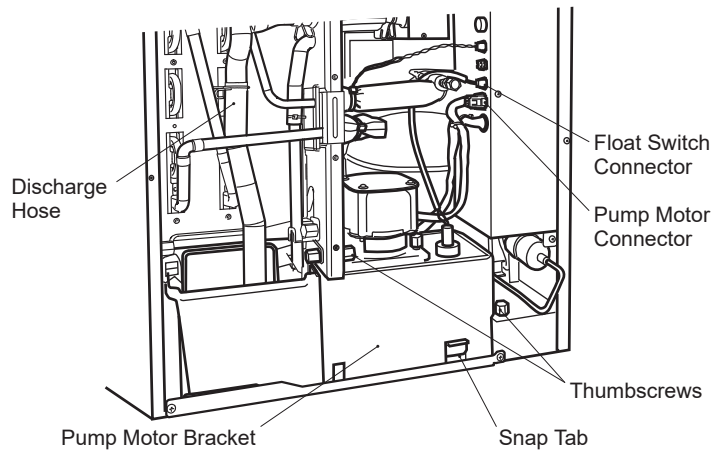

Fig. 3
- 2) Loosen the two thumbscrews securing the pump motor bracket. See Fig. 3.
Be sure to let the discharge hose pass behind the copper tube and connect it securely in position. See Fig. 3. Otherwise, the discharge hose may be caught in the front insulation, leading to improper results.